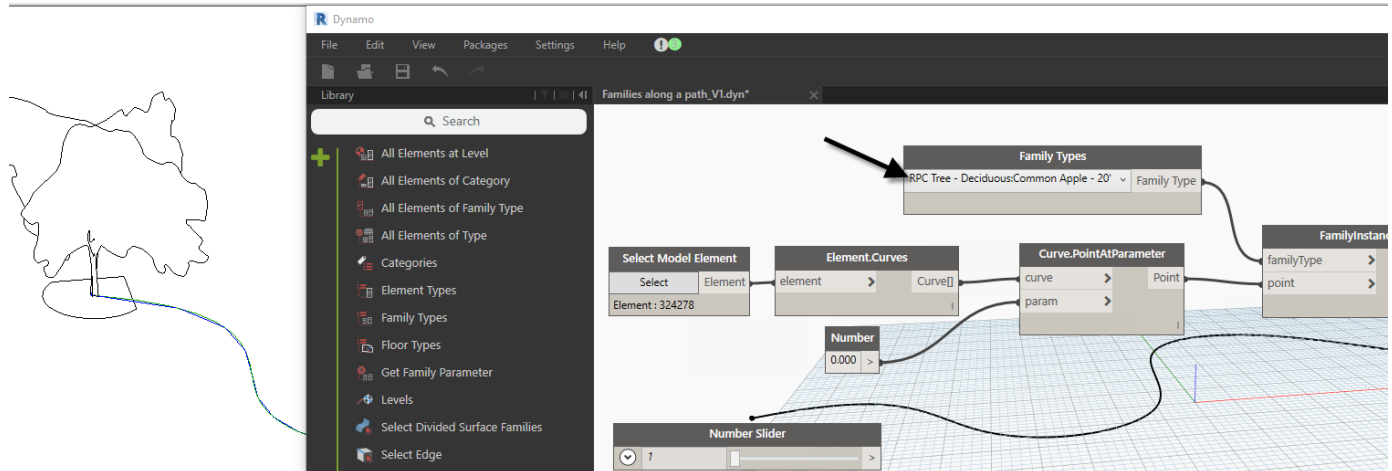

Figure 33
6. From the drop-down on the **Family Types** node, choose an RPC tree family (see Figure 33).